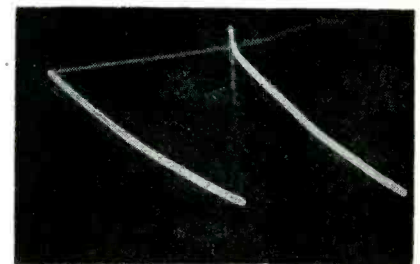

Fig. 9—Spurious voltage present in vertical sweep due to crosstalk.
A. This expedient is illustrated in Figs. 9 and 10. In Fig. 9 is shown a sawtooth wave with a spurious voltage present, due to cross-talk of the horizontal sweep circuit into the ver-